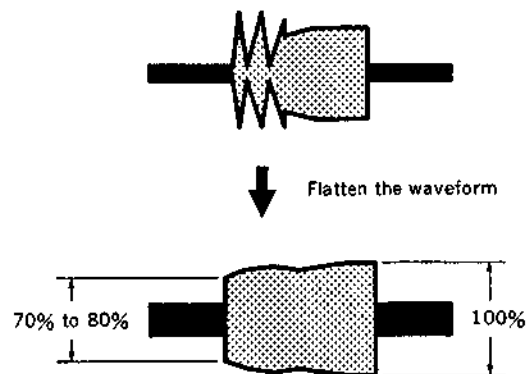

Fig. 5
(4) Turn slowly the No. 2 Guide clockwise to flatten the waveform at the entrance side. (fig. 5)